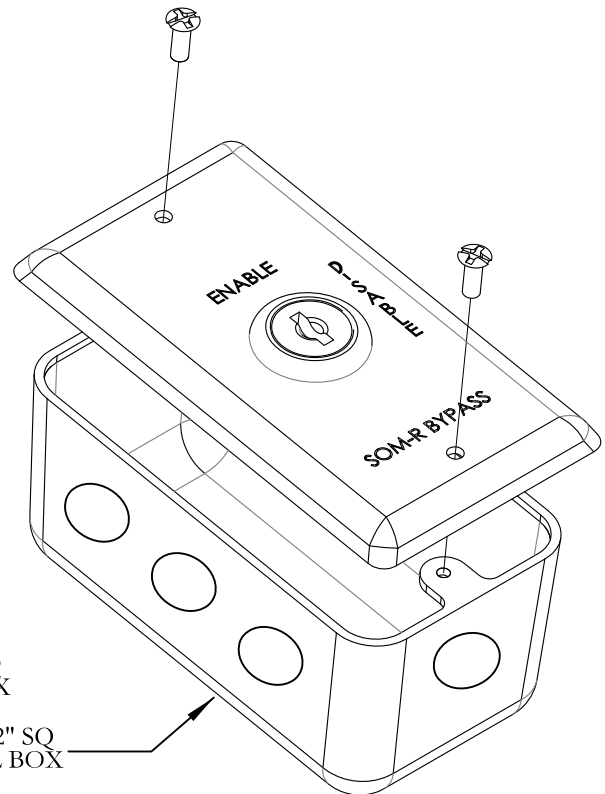

FIGURE 3
- 1) Install module wiring in accordance with the job drawings and appropriate wiring diagram (see Fig.3).